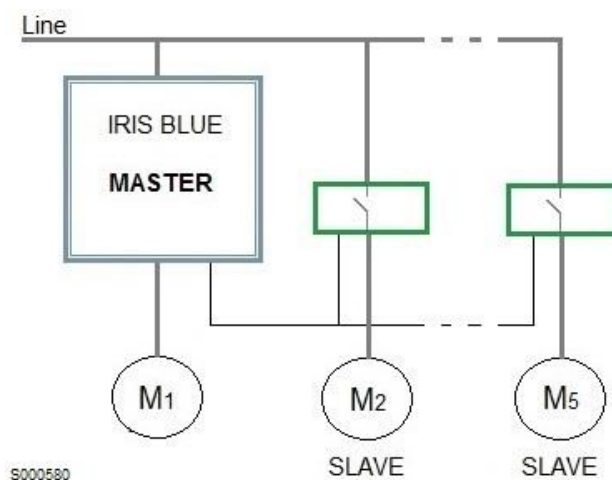

Figure 71: Block diagram of MMC operating mode – Direct On Line
- Direct On Line (DOL): consists in connecting the motor directly to the mains power supply by simply placing a disconnecting switch. See Figure 71.